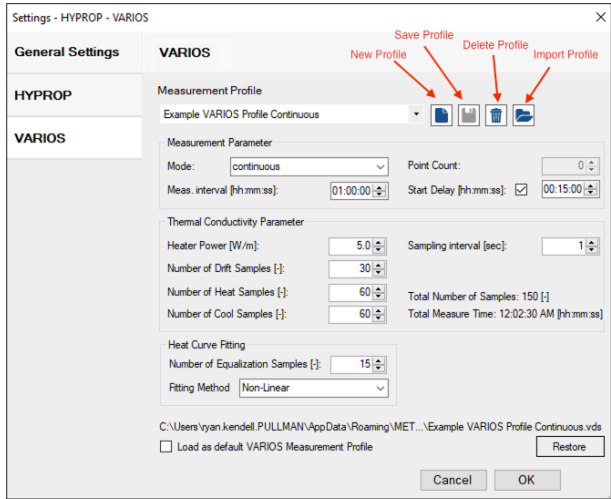

Figure 29 Generating a customized profile
3. Press the **Save Profile** button to enter a profile name and store it (Figure 29).